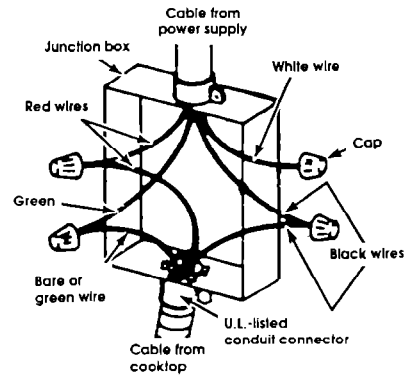

Figure 2
2. Connect the two black wires together. Then connect the two red wires together. Cap the unused white wire. (See Figure 2.)